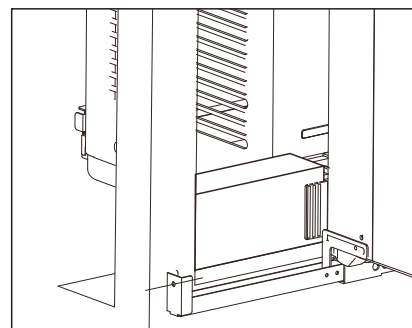

Fig.7
C. Cut the Sealed sponge to proper length for sealing the space between the window and unit. See Fig.7